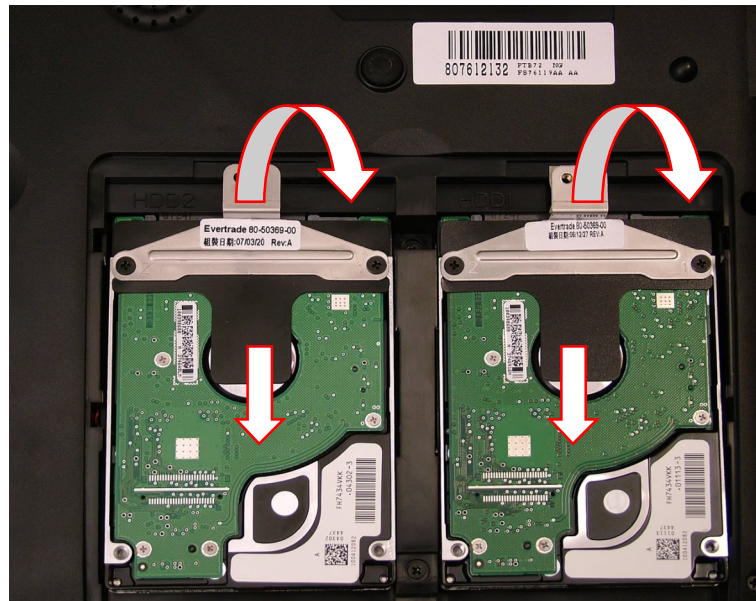

Fig. 3 Disconnecting and removing hard disk drive(s).
3. Take the drive out of its compartment as shown in Fig. 3.